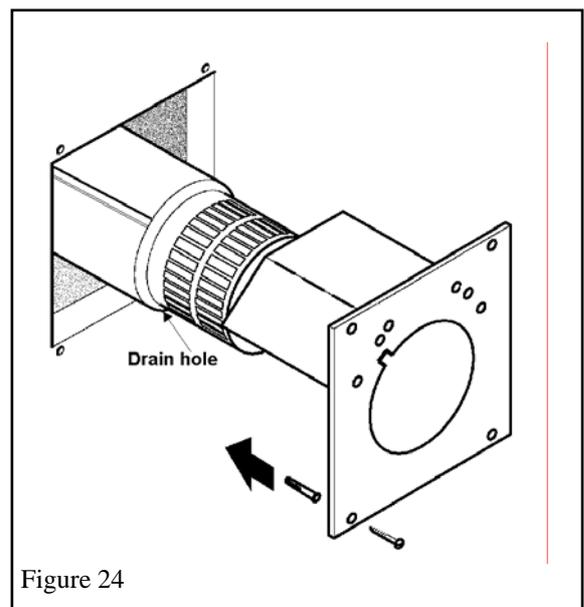

Figure 24
3. Slide the terminal into the wall. Make sure that the drain hole is at the bottom – the seam will be through the notch in the wall plates – See figure 24.
10. Screw the plate to the wall with 4 screws provided. See figure 24.